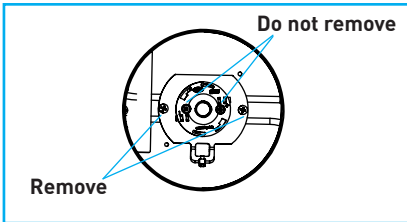

Fig.40
- C. Using standard Phillips-head screwdriver, remove 2 LED assembly retaining screws to detach from mounting surface *"Fig.40"*.
- F. Replace with new OEM LED engine assembly sourced through Lucifer Lighting. Attach LED wiring to the corresponding 2-pin lever-nut connectors, Red to Red (+), Black to Black or Blue (-). Using standard Phillips-head screwdriver, install LED assembly with 2 screws *"Fig.40"*.